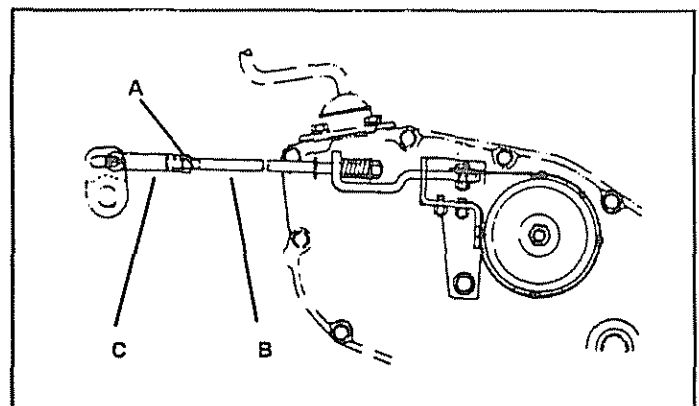

FIG. 36
- Remove four (4) hex washer head tapping screws from shift cover plate located on top of tractor frame. Remove the cover plate.
- Loosen jam nut (A) on brake rod (B) at clevis (C) (Fig. 36). If you find it difficult to loosen jam nut (A), remove cover plate in L.H. frame rail.
- Rotate brake rod (B) counterclockwise, turning brake rod out of clevis (C) four (4) to six (6) turns.
- Shut engine off. Rotate brake rod (B) clockwise by hand, turning brake rod into clevis (C) until tight. Tighten jam nut (A) on brake rod (B) at clevis (C).
- Reinstall shift cover plate and four (4) mounting screws. If cover plate in L.H. rail was removed it should be replaced.